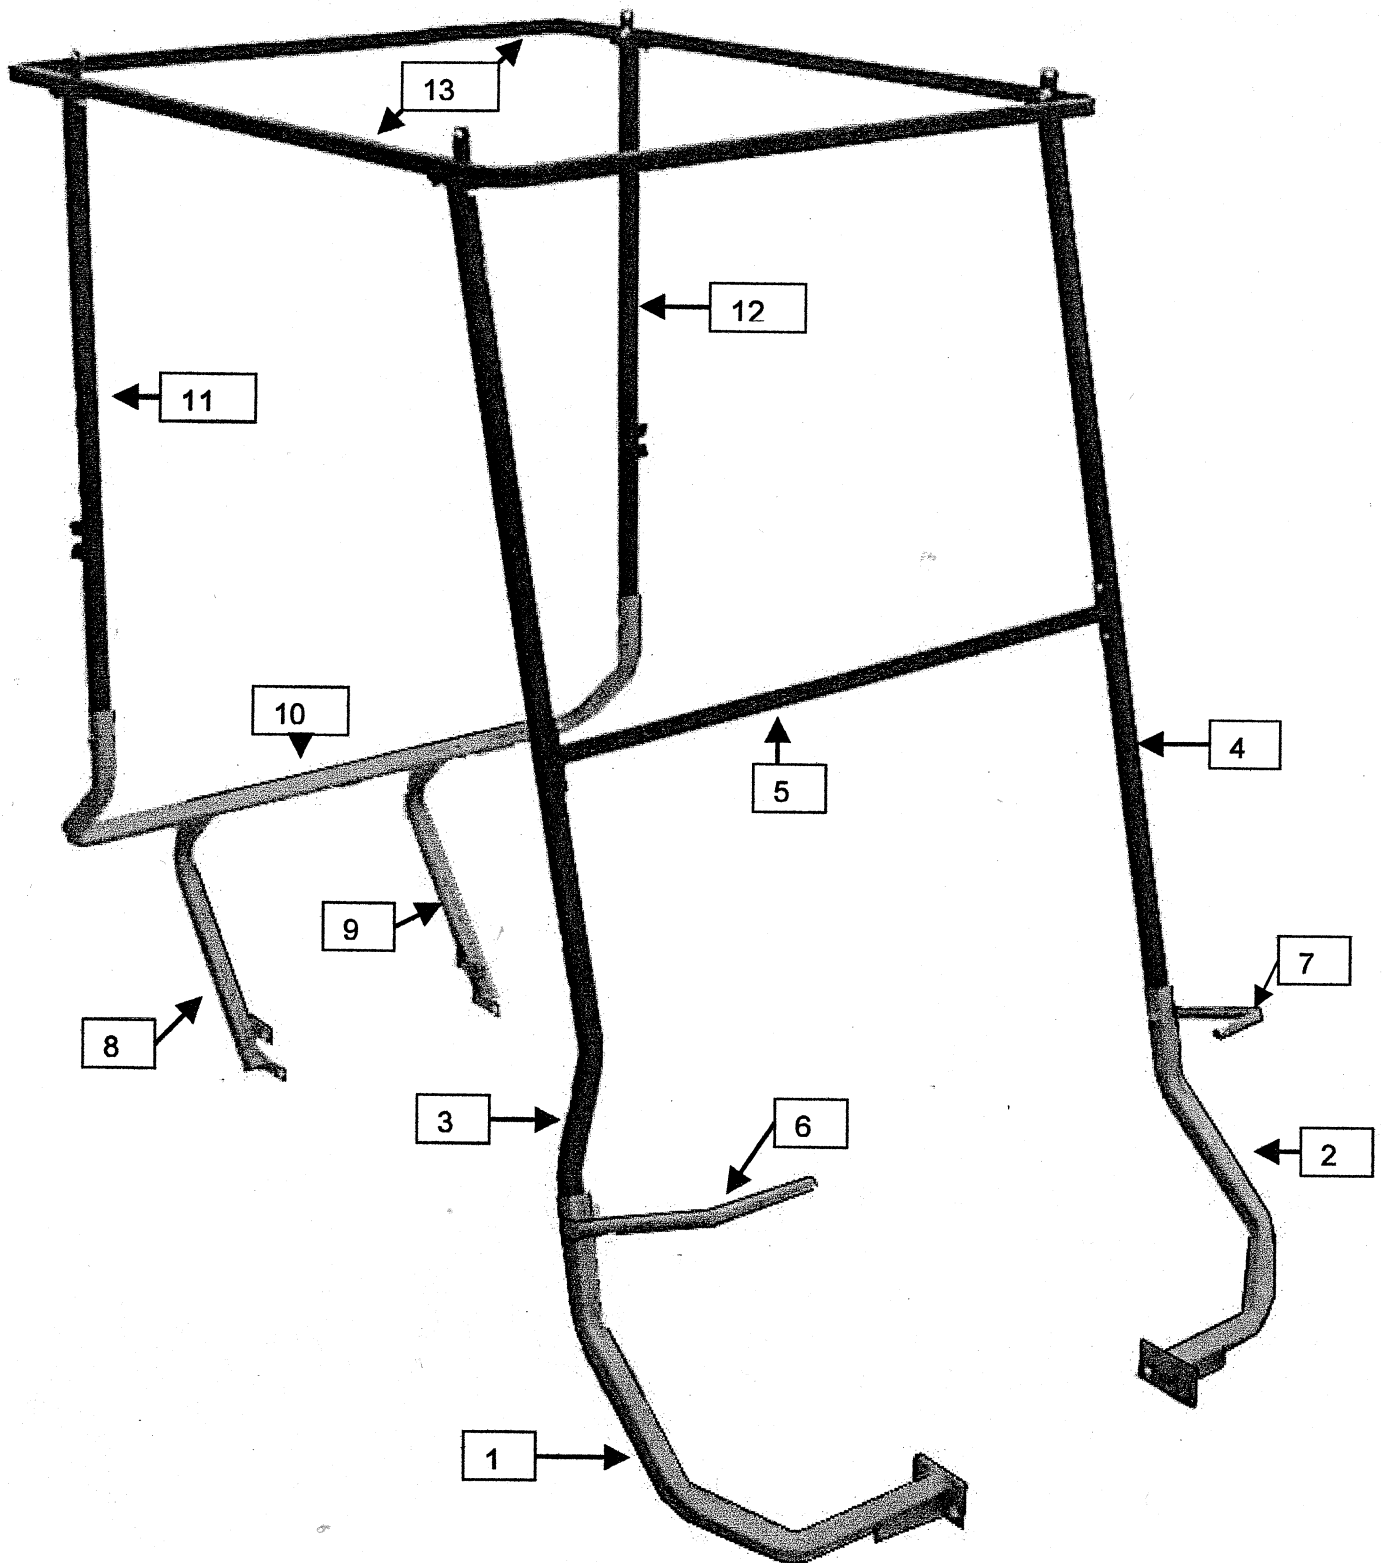

FIGURE 1
A. Use the carton contents list and Figure 1 to identify all the steel parts.